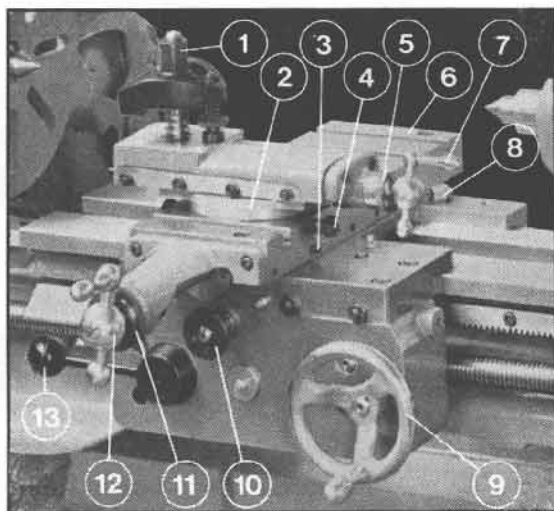

Fig. 39. Showing the carriage controls.
Fig. 39 gives the names and positions of the carriage controls. The apron handwheel moves the carriage along the bed, and the cross slide and top slide ball handles move the tool post in and out.
Two socket set screws, (3) on Fig. 39, visible on the parts list as KA31, are fitted to provide cross slide clamping. This gives extra rigidity when carrying out certain milling and boring operations.
The unit may be removed complete by releasing the two square head screws one to the right and one to the left of the cross slide (Figure 39, item 4). Both screws should be withdrawn a full ¼". The unit may then be lifted clear of the cross slide.